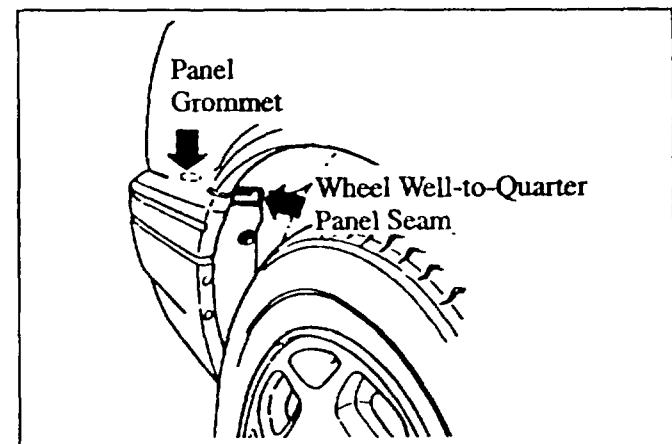

Figure 19: Wheel Well-to-Quarter Panel Seam
- Inner wheel well-to-trunk floor pan seam. **Figure 19**.